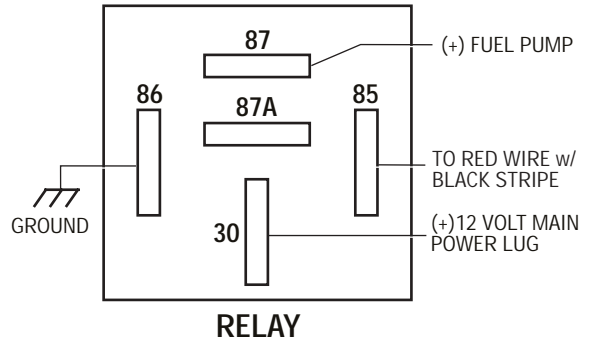

Fig. 6-a
- A. (See Fig. 6-a for the following instructions.) With the two wiring looms above the fuel pump, locate the red wire with black stripe in the wiring loom that runs to the fuel tank. Check the red/black wire (with a test light) for key-on power, this wire should show power for approximately two to four seconds with the key in the on position.